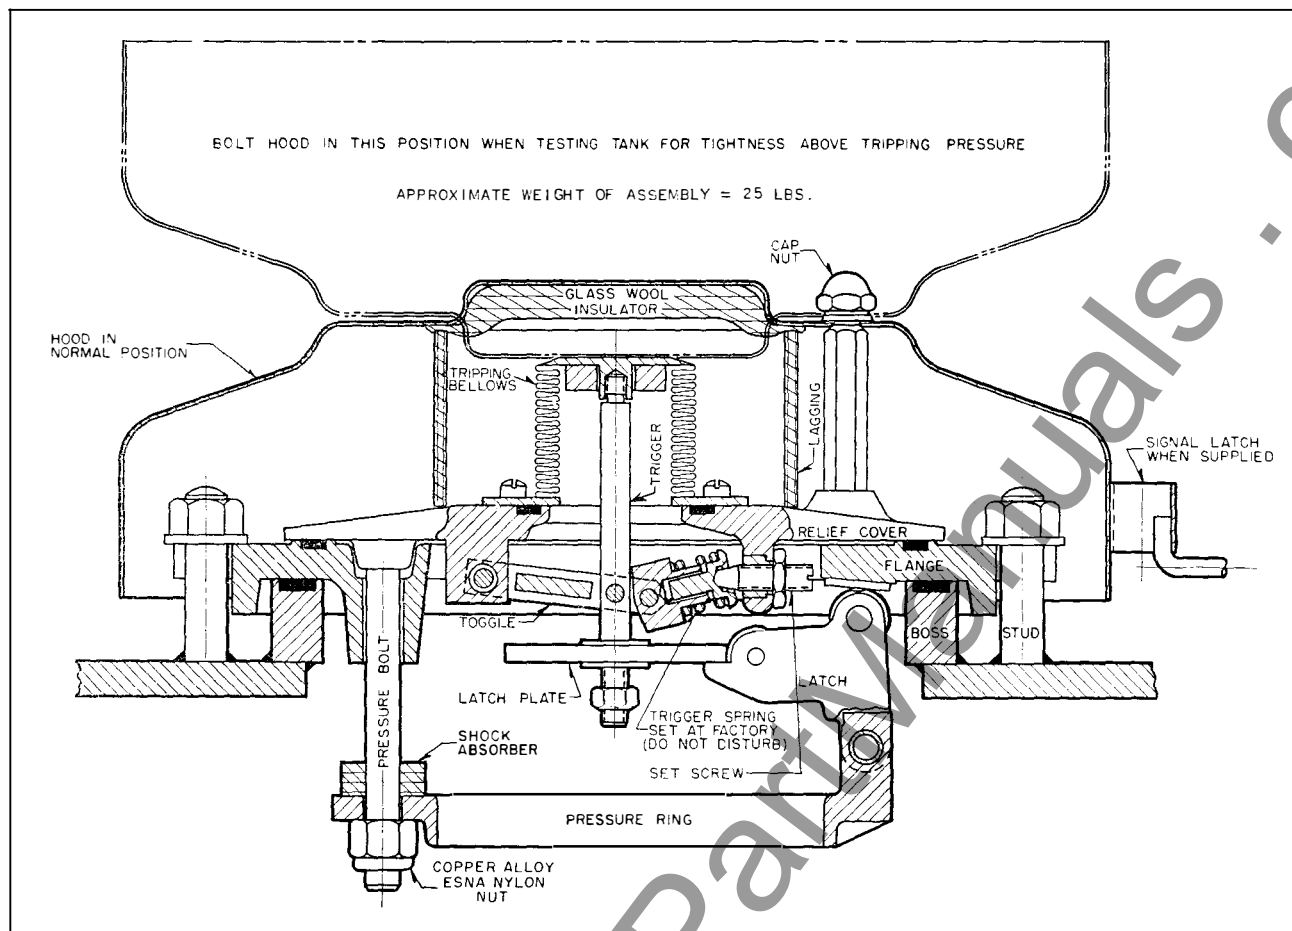
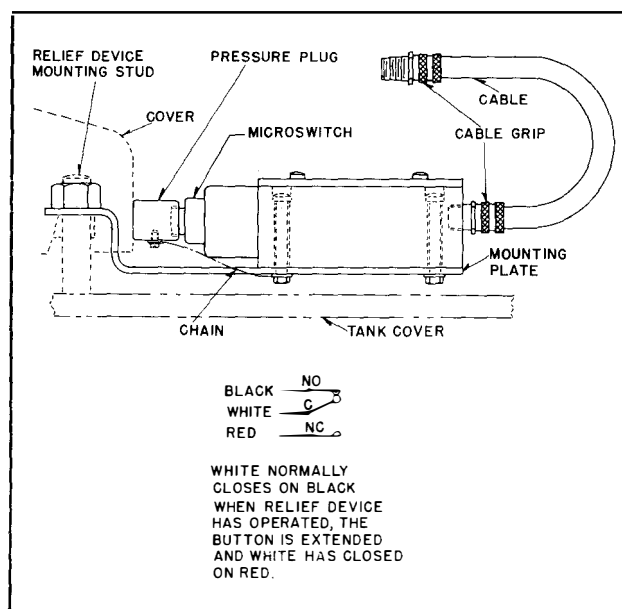
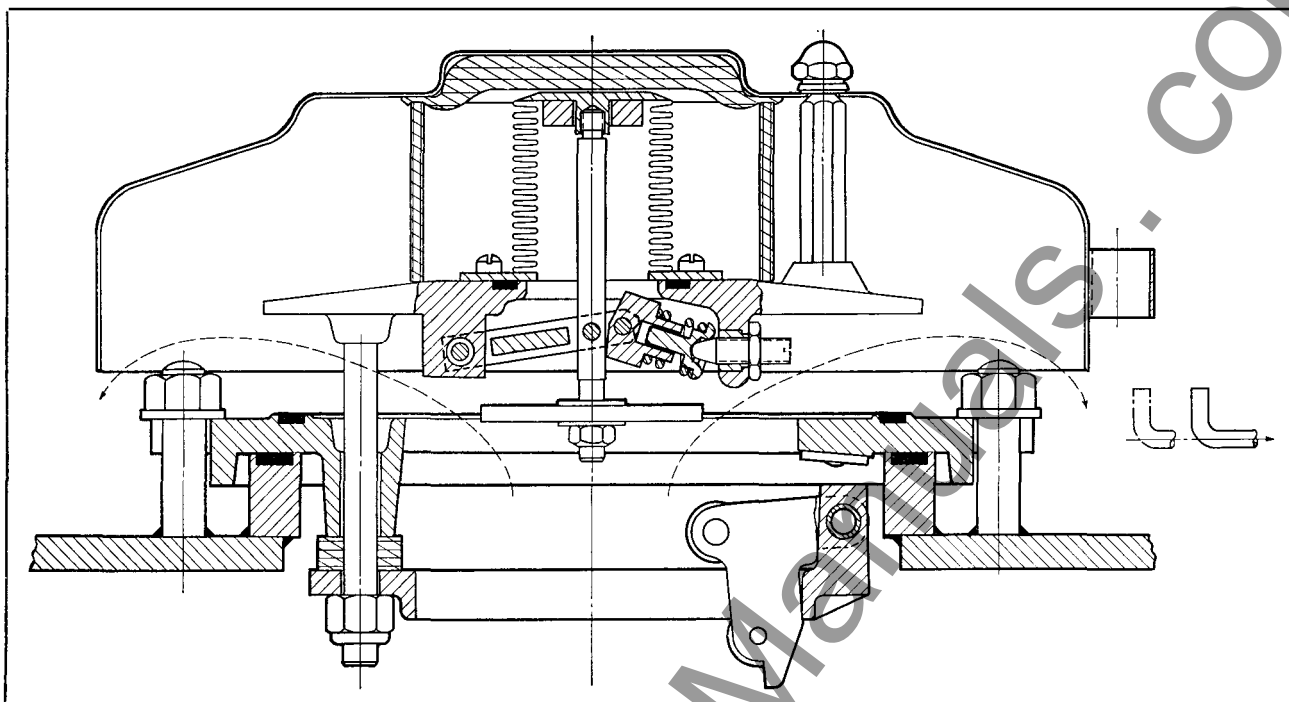

FIG. 3. The Relief Device in Latched or Sealed Position
FIG. 4. Alarm Contact in Cocked Position
FIG. 5. The Relief Device at Moment after Tripping
All parts are sturdily constructed to allow the device to operate any number of times without damage to any part. If the gasket between the relief cover and the flange is damaged for any reason, a new one must be inserted. The gasket shown in Fig. 3 is a Buna-N compound and may be used with oil or Askarel (Inerteen®).
The semaphore is locked by the cover as shown in Fig. 3 before operation. When the cover rises during operation the rod of the semaphore slips out of the signal latch and is retracted by a spring, (Fig. 5). This retracting action uncovers the semaphore or indicator to show that the mechanical relief device has been tripped.
The alarm type indicator, Fig. 4, incorporates a double throw microswitch which is depressed to close a normally open circuit for the untripped position of the relief device, Fig. 4. When the relief device trips, a pressure plug drops out of position and the microswitch changes to a normally closed circuit. Closing this circuit actuates the
The mechanism in the latched or sealed position is shown in Fig. 3, while Fig. 5 shows its maximum venting position. The trigger spring is set at the factory so that tripping will occur at a pressure of ten to twelve pounds per square inch.
plate and carry it free of the roller latches. These latches then roll inward, allowing the relief cover to be moved upward by the pressure of the gases and to break the gasket seal thus venting the transformer. The operation of the mechanism is clearly illustrated in Figs. 3 and 5.
The bellows travel is limited by a shock-absorbing gasket in the top of the hood and the pressure ring comes up against the shock absorbers, which protect the mechanism from any damage. See Fig. 5.
12. If a signal device is provided with the mechanical relief device it is cocked at the time the hood is replaced. The semaphore is cocked by hooking the semaphore rod into the signal latch on the hood. Fig. 3 shows the cocked position. The microswitch alarm is cocked by replacing the switch and its mounting on one of the four relief device mounting studs, and inserting the pressure plug between the hood and the pressure button of the microswitch. Fig. 4 shows the cocked position.